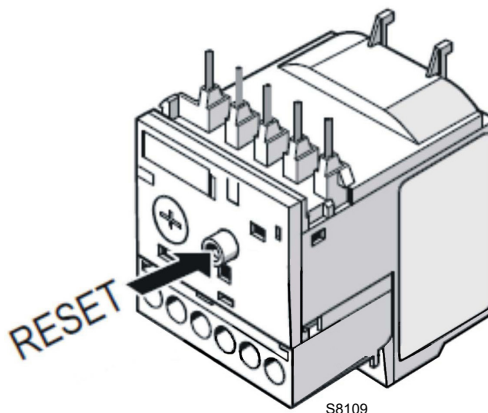

Fig. 21
- To reset, in the case of an intervention of the thermal relay, press the button **"RESET"** (Fig. 21).